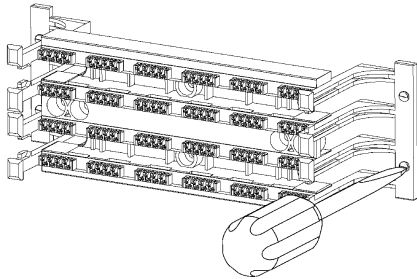

Fig. 2
2. Route cables through the slots in the base as shown in Fig. 2.